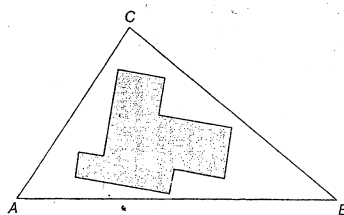

Fig. 3.1 Triangle for chain surveying
- In chain surveying, the area to be surveyed is divided into a frame work of triangles. One such typical triangle is as shown in Fig. 3.1.